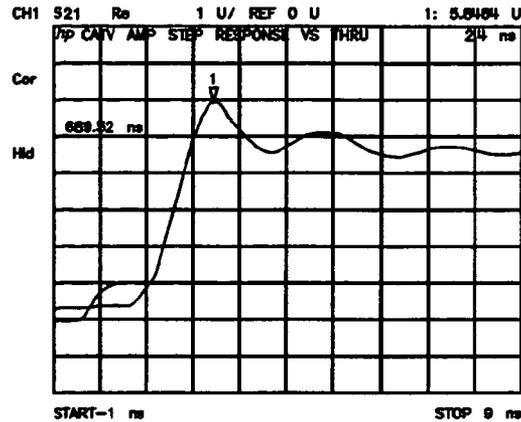

Figure 9–8. Time Domain Low Pass Measurement of an Amplifier Small Signal Transient Response
**Interpreting the Low Pass Step Transmission Response Vertical Axis.** In the real format, the vertical axis displays the transmission response in real units (e.g. volts). For the amplifier example in Figure 9–8, if the amplifier input is a step of 1 volt, the output, 2.4 nanoseconds after the step (indicated by marker 1), is 5.84 volts.